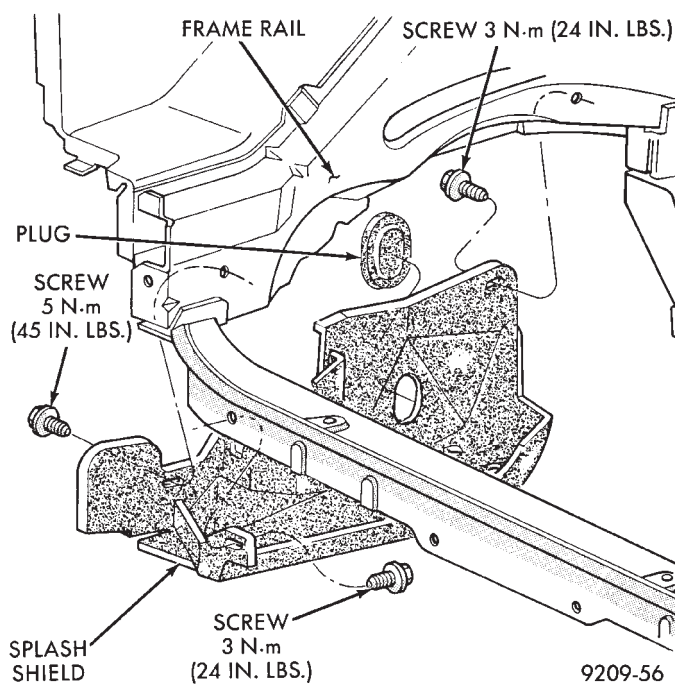

Fig. 8 Right Inner Splash Shield—Typical
(4) Remove two steering pump to engine mounting bracket screws and one rear support lock nut.
(5) Lay power steering pump aside.
(6) Raise vehicle and remove right inner splash shield (Fig. 8).